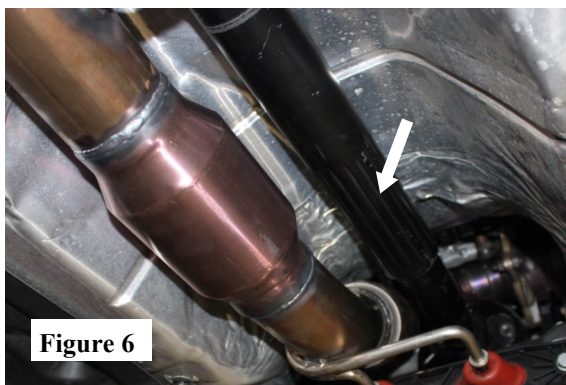

Figure 6
2. Reinstall driveshaft to vehicle using factory hardware and tighten to factory torque specifications. (See Fig. 6)